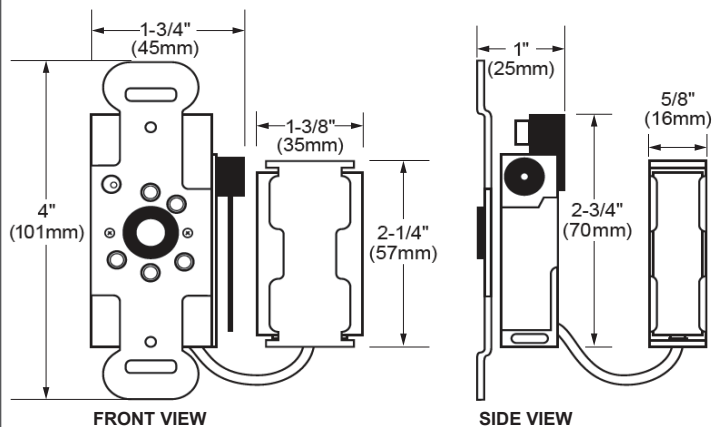

Figure 4.1 Switch Dimensions
1. a. If using an in-wall box ensure the box is plumb and square, and flush with the wall surface. (See Figure 4.1)